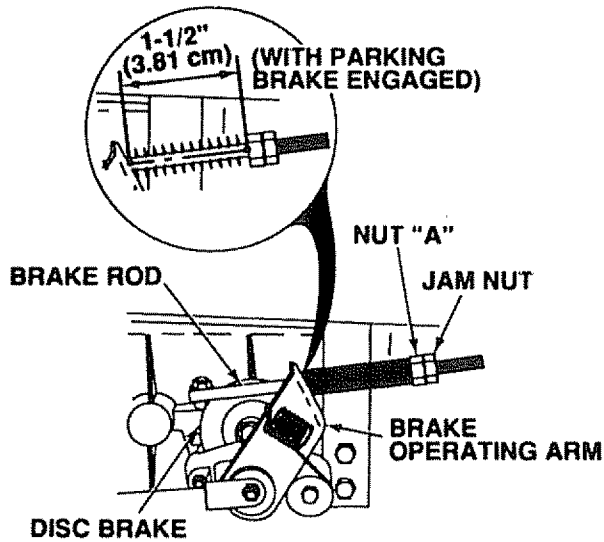

FIGURE 10
This tractor is equipped with an adjustable brake system mounted on the right side of the transaxle (Fig. 10).
- If distance is other than 1-1/2" (3.81 cm), loosen jam nut (Fig. 10) and turn nut until distance becomes 1-1/2" (3.81 cm). Retighten jam nut against nut "A".